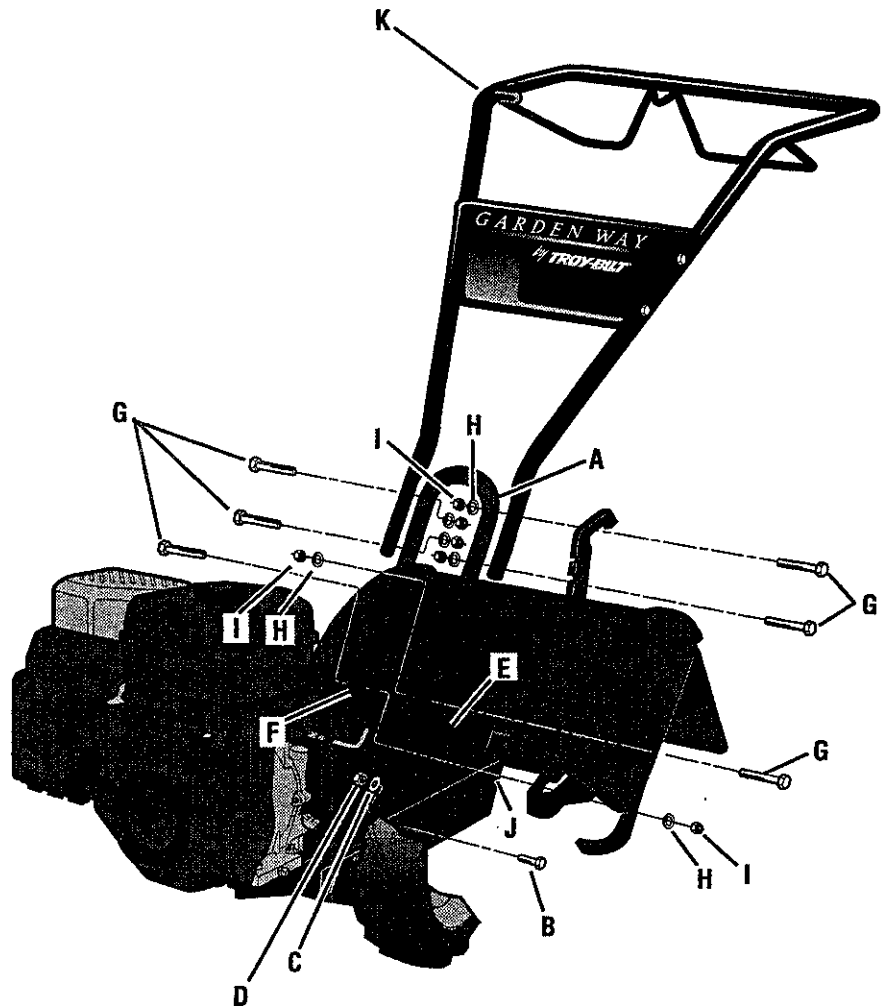

Fig. 2-2: Attach handlebar.
1	Handlebar Support (see A, Fig. 2-2, page 7)
1	Handlebar Assembly (see K, Fig. 2-2)
1. Attach the two legs of the handlebar support (A, Fig. 2-2) loosely to the inner sides of the tiller frame using two 3/8"-16 x 3/4" hex hd. screws (B), 3/8" flat washers (C) and 3/8"-16 hex locknuts (D).
2. There are three height adjustment holes in the two handlebar support brackets (E and F, Fig. 2-2). Choose a setting that will position the handlebars at approximately waist level when the tines are 3"-4" into the soil. Loosely attach the support brackets to the handlebar support (A) using two 5/16"-18 x 1-1/2" screws (G), 5/16" split lockwashers (H) and 5/16"-18 hex nuts (I). NOTE: If a support bracket will not move, loosen attaching screw (J) and nut.
3. Attach the handlebar assembly (K) to the handlebar support (A) using four 5/16"-18 x 1-1/2" screws (G), 5/16" split lockwashers (H) and 5/16"-18 hex nuts (I). Tighten the four screws securely.